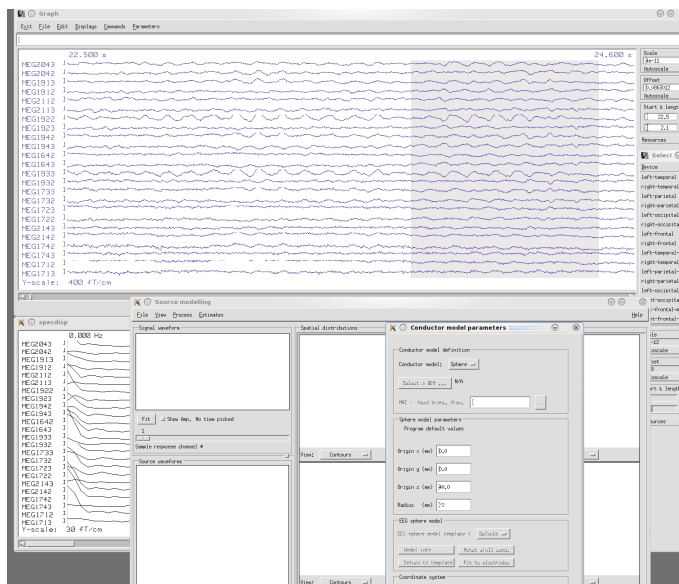

Figure 58: Sending data from *Graph* to *Xfit*.
- Select **Displays- > xfit -> Transfer selection** to send the selection from *Graph* to *Xfit* (an example is displayed in Figure 58 below).
- Select **Displays -> xfit -> Transfer selection** (Figure 58).